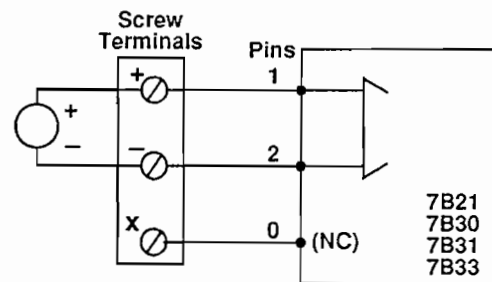

Figure 2-15. Millivolt and Voltage Input
- **Millivolt and Voltage Input** - An example of wiring a millivolt or voltage input signal to a 7B21, 7B30, 7B31, or 7B33 module is shown in Figure 2-15.